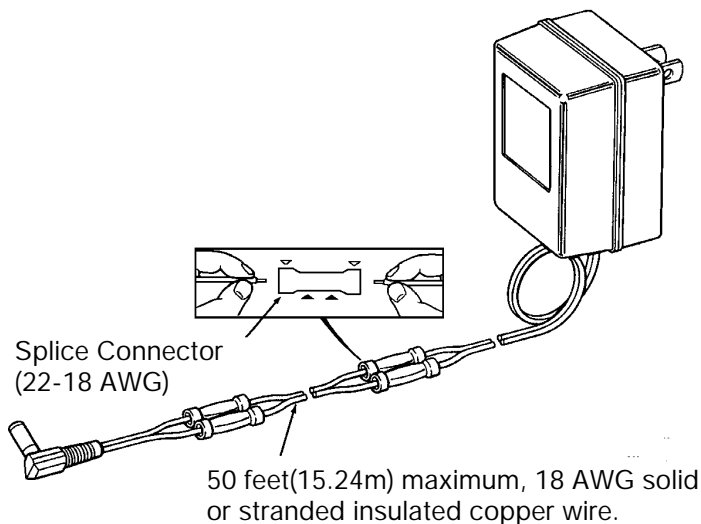

Figure 6
2. Insert stripped wire into barrel of connector and crimp. For best results, crimp twice per wire as shown (Figure 6).